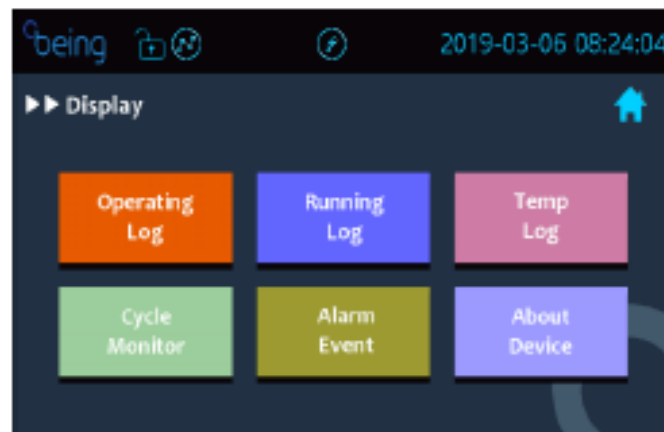

Figure 1-26.
1. Touch the “Display” button from the home page to enter the display page, as shown in Figure 1-26.